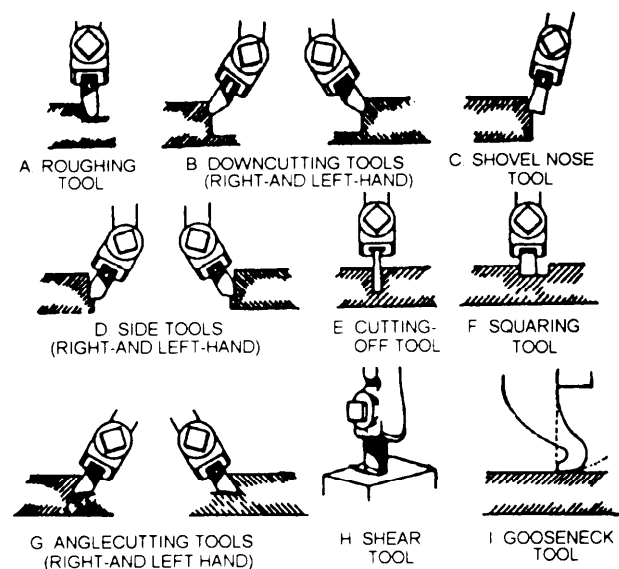

Figure 5-24.—Standard shaper and planer tools.
The shape and use of various standard shaper and planer cutting tools are illustrated in figure 5-24 and described in the following paragraphs:
- **Roughing tool:** This tool (fig. 5-24, view A) is very efficient for general use and is designed to take heavy cuts in cast iron or steel. You will generally grind it for left-hand operation as illustrated. For special applications, you can reverse the angles for right-hand cuts. Do not give this tool any back rake although the side rake may be as much as  $20^{\circ}$  for soft metals. Do finishing operations on small flat pieces with the roughing tool if a fine feed is used.
- **Downcutting tool:** You may grind and set this tool (fig. 5-24, view B) for either right- or left-hand operation and use it to make vertical cuts on edges, sides, and ends. It is substantially the same as the roughing tool, with the exception of its position in the toolholder.
- **Shovel-nose tool:** You may use this tool (fig. 5-24, view C) for downcutting in either a right- or left-hand direction. It requires a small amount of back rake and the cutting edge should be the widest part of the tool. Make the corners slightly rounded to give them longer life.
- **Side tool:** This tool (fig. 5-24, view D) comes in both right- and left-hand versions required to finish vertical cuts. You also may use these tools to cut or finish small horizontal shoulders to avoid changing tools after you make a vertical cut.
- **Cutting-off tool:** You should give this tool (fig. 5-24, view E) relief on both sides to allow free cutting action as the depth of cut is increased.
- **Squaring tool:** This tool (fig. 5-24, view F) is similar to a cutting-off tool and you can make it in any desired width. Use the squaring tool mostly to finish the bottoms and sides of shoulder cuts, keyways, and grooves.
- **Angle cutting tool:** This tool (fig. 5-24, view G) is adapted for finishing operations and is generally used following a roughing operation made with the downcutting tool. You may grind this tool for right- or left-hand operation.
- **Shear tool:** This tool (fig. 5-24, view H) is used to produce a high finish on steel and should be operated with a fine feed. Grind the cutting edge to form a radius of 3 to 4 inches, twisted to a 20° to 30° angle, and give it a back rake in the form of a small radius.
- **Gooseneck tool:** This tool (fig. 5-24, view I) is used to finish cast iron. You must forge it so the cutting edge is behind the backside of the tool shank. This feature allows the tool to spring away from the work slightly, reducing the tendency to gouge or chatter. Round off the cutting edge at the corners and give it a small amount of back rake.